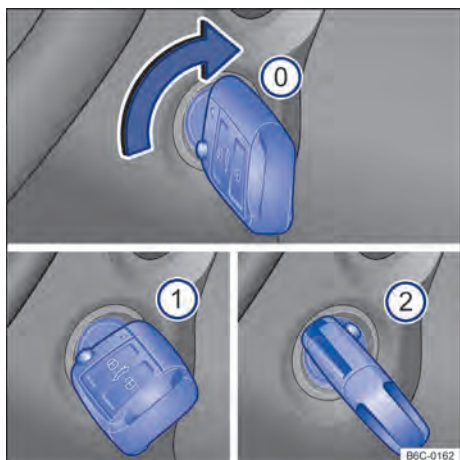

Fig. 81 Next to the steering wheel, to the right: vehicle key positions on the ignition cylinder.
Positions of the key in the vehicle → Fig. 81
- *Vehicles with heated start:* turn the vehicle key to position → Fig. 81 ②. Ignition switched on. The warm starting system's indicator lamp  will then light up on the instrument cluster. Wait until the indicator lamp  is disabled, indicating the end of the fuel warming process (this action may be required when starting cold engines).
- Turn the vehicle key in the ignition lock to position → Fig. 81 ② – do not accelerate. When the engine catches, release the ignition key.
- *Vehicles with heated start:* turn the vehicle key in the ignition lock to position → Fig. 81 ② to start the engine – do not accelerate. If step 5 is not followed, the indicator lamp  will flash, indicating the need to stop the starting procedure and repeat it after returning the key to position → Fig. 81 ① and waiting approximately 10 seconds.